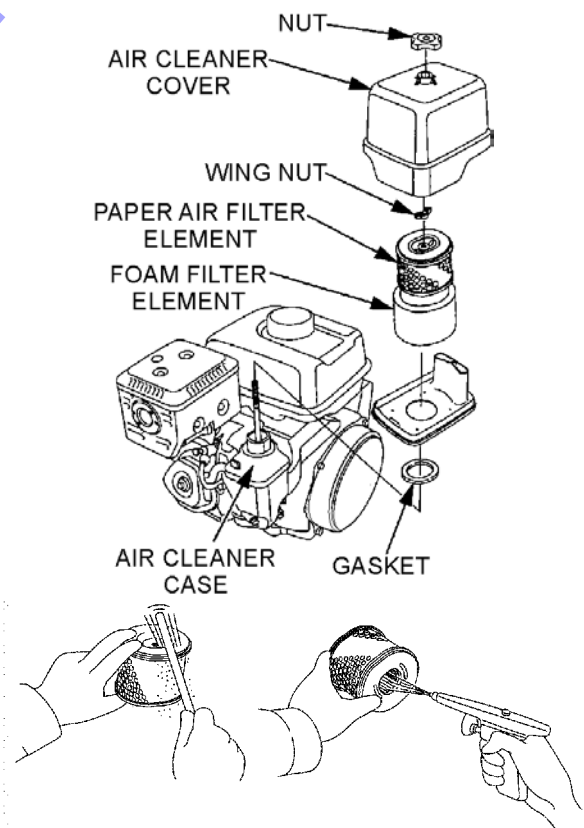

Figure 19. Engine Air Cleaner
1. Remove the air cleaner cover and foam filter element as shown in Figure 19.
2. Tap the paper filter element (See Figure 19) several times on a hard surface to remove dirt, or blow compressed air [not exceeding 30 psi (207 kPa, 2.1 kgf/cm²)] through the filter element from the air cleaner case side. **NEVER** brush off dirt. Brushing will force dirt into the fibers. Replace the paper filter element if it is excessively dirty.